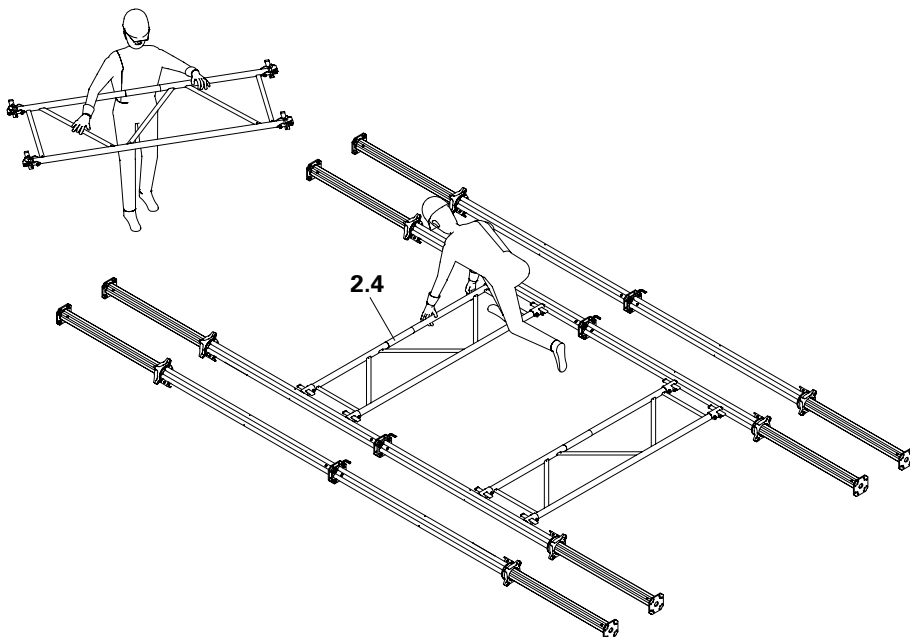

Fig. A3.02
2. Mount the frames. The wider frame is positioned on the ground. (Fig. A3.02)